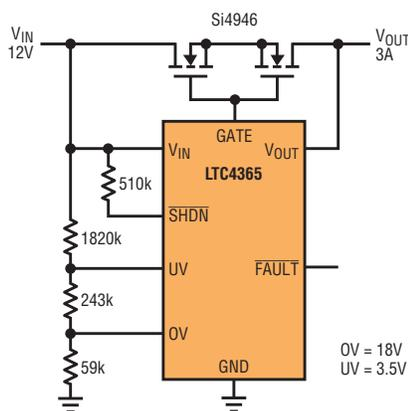
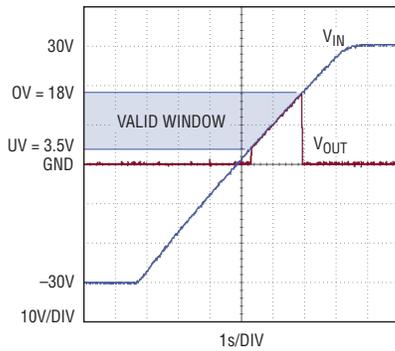

Figure 1. Complete 12V automotive undervoltage, overvoltage and reverse-supply protection circuit
Figure 2. Load protection as V_{IN} is swept from -30V to 30V
Figure 1 shows a complete application. A resistive divider sets the overvoltage (OV) and undervoltage (UV) trip points for connecting/disconnecting the load from V_{IN} . If the input supply wanders outside this voltage window, the LTC4365 quickly disconnects the load from the supply.
Figure 2 shows the how the circuit of Figure 1 reacts as V_{IN} slowly ramps from -30V to 30V. The UV and OV thresholds are set to 3.5V and 18V, respectively. V_{OUT} tracks V_{IN} when the supply is inside the 3.5V-18V window. Outside of this window, the LTC4365 turns off the N-channel MOSFET, disconnecting V_{OUT} from V_{IN} , even when V_{IN} is negative.